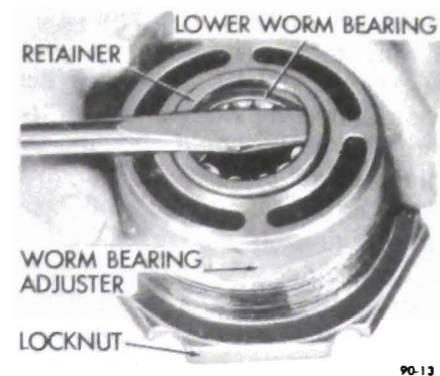

Figure 90-9 Removing Lower Worm Bearing Retainer
9. Remove lower worm bearing from adjuster by prying retainer out with a screwdriver. See Figure 90-9.